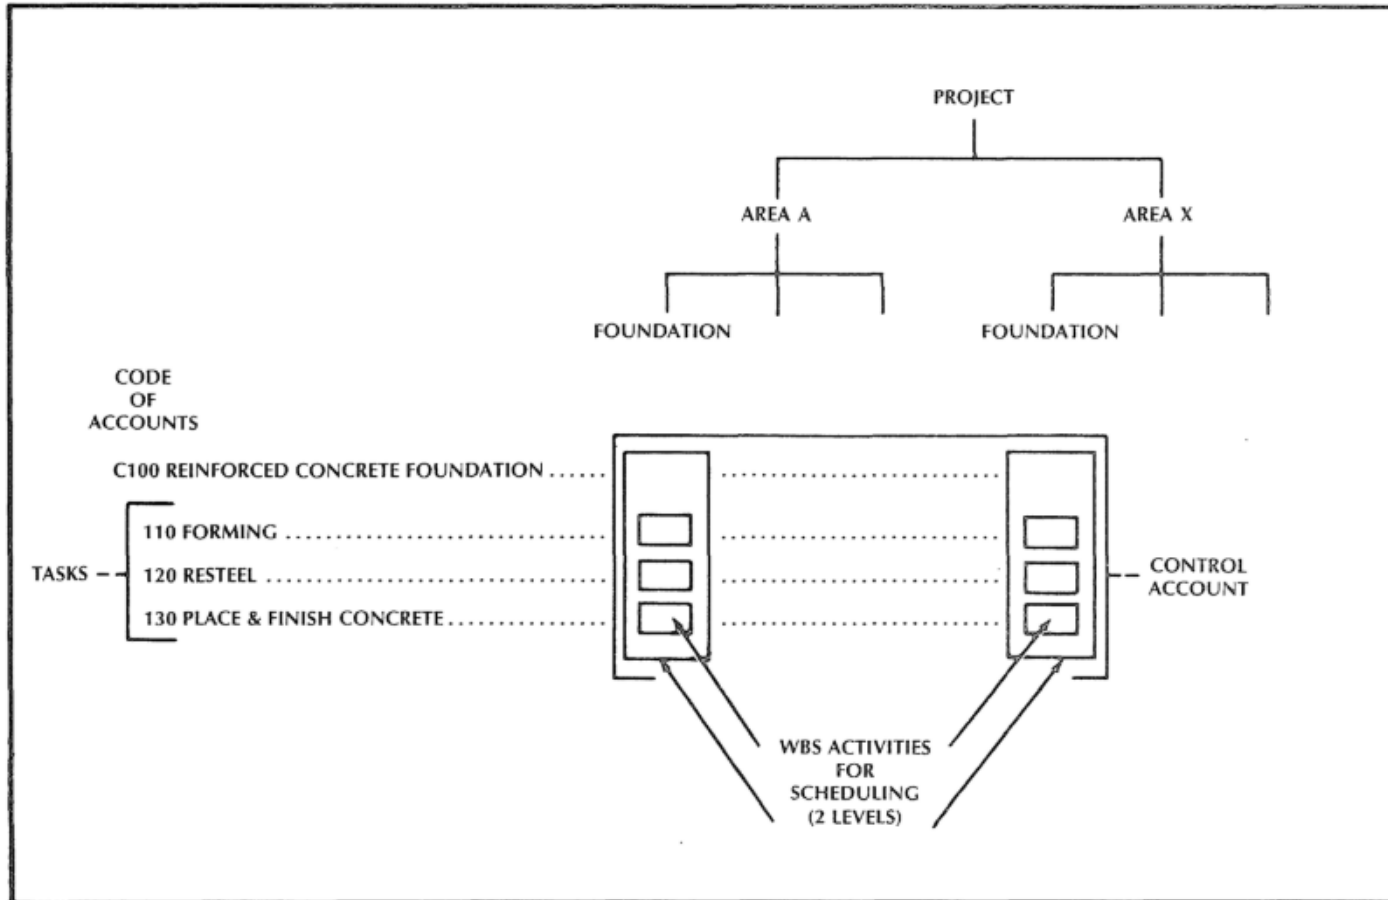

Figure 5. Control Account/Schedule Activity Relationship
- ❑ Figure 5 provides a **visual representation** of the relationship between control accounts and the schedule activities for **construction**.
Again referring to **Figure 5**, it can be seen how this structure directly supports data collection both for
❑ The **control accounts** referred to above and illustrated on **Figure 5** will have these characteristics: